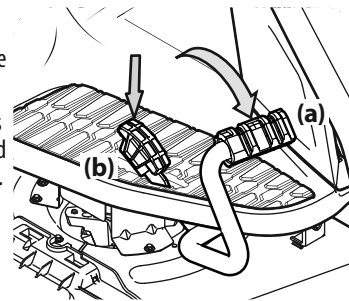

Figure 27
2. To travel FORWARD, slowly depress the forward drive pedal (a) forward until the desired speed is achieved. See Figure 27.
3. To travel in REVERSE, check that the area behind is clear then slowly depress the reverse drive pedal (b) until the desired speed is achieved. See Figure 27.